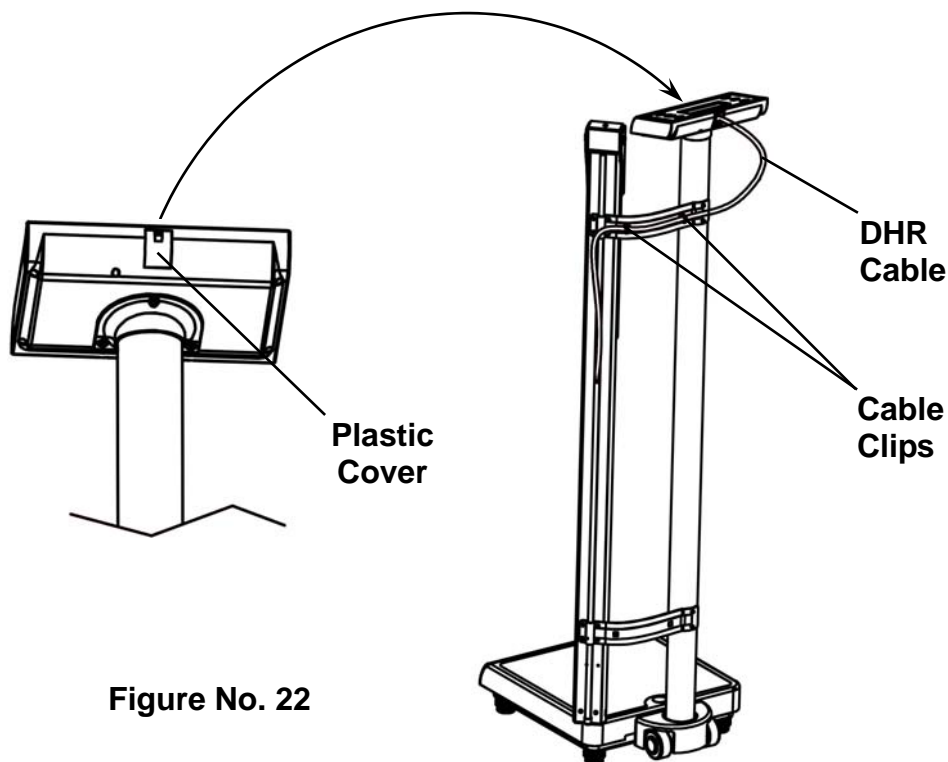

Figure No. 22
- Remove the plastic cover on the back of the display exposing the modular connector socket. Insert the modular connector of the DHR cable into the socket on the display until it locks in place. (It will click when locked in place). Route the DHR cable through the two (2) plastic cable clips on the upper bracket. See Figure No. 22